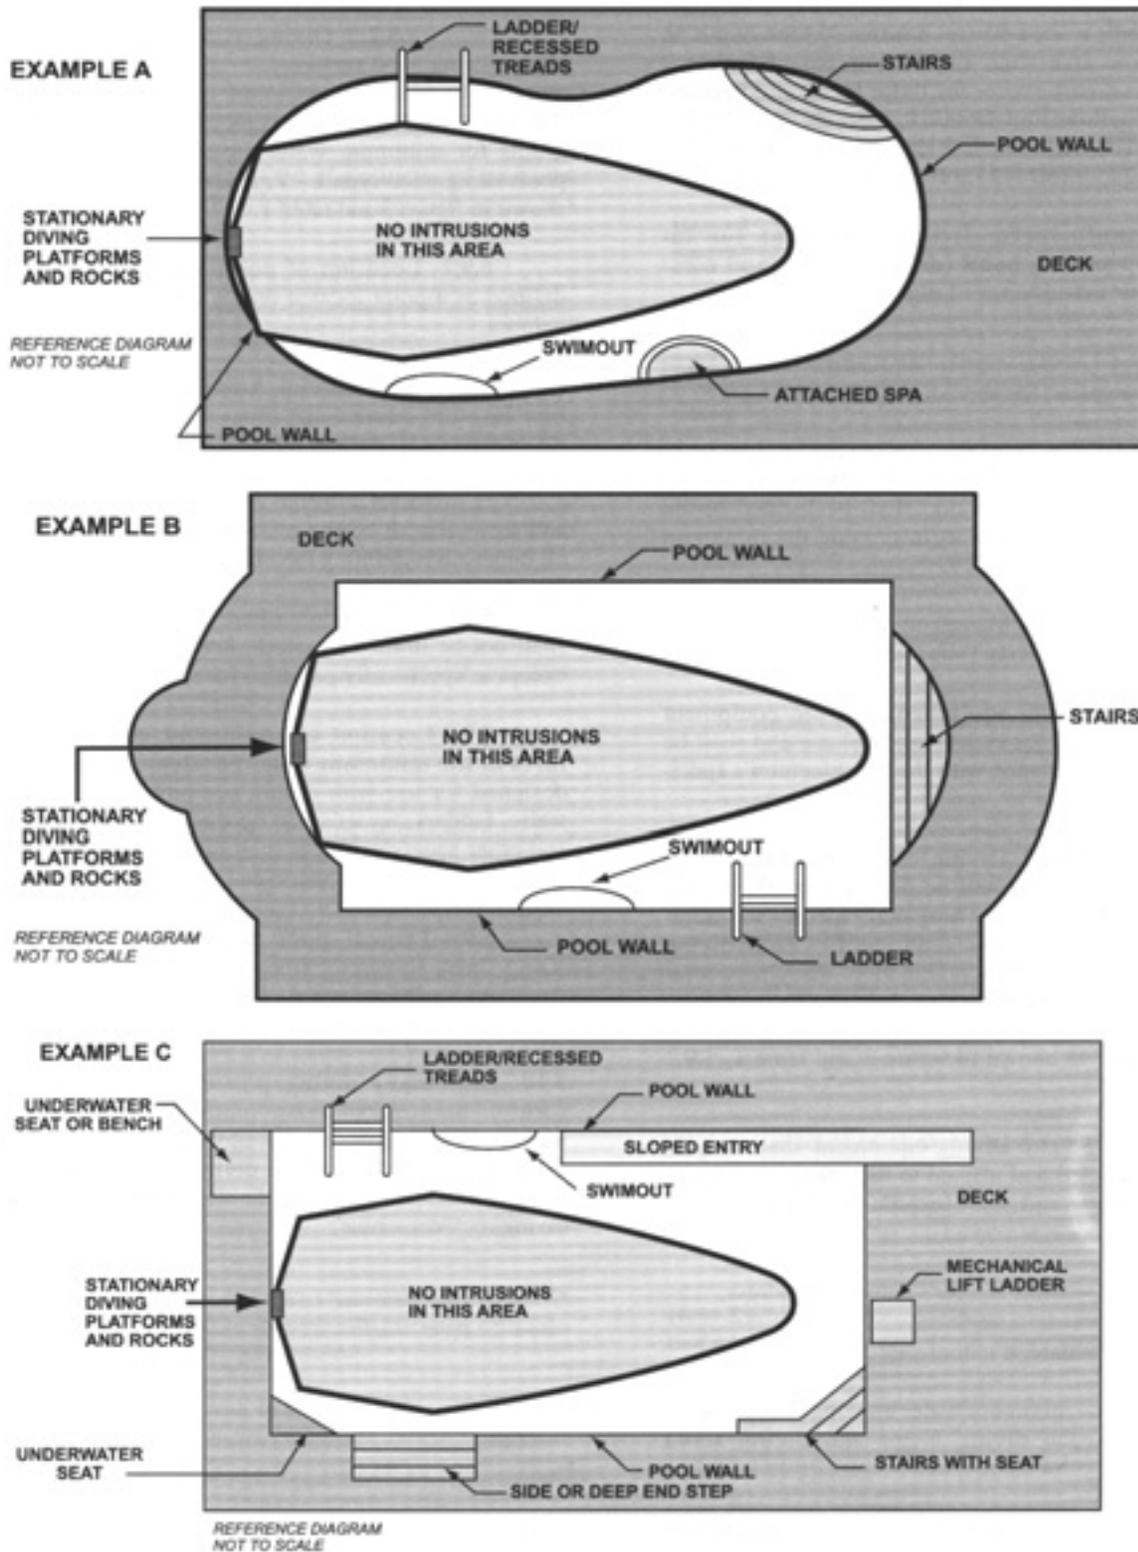

Figure 6 – Top view examples of accessory equipment and pool features prohibited in the water envelope
**5.9.3 Location of equipment and pool features in the minimum water envelope.** If the pool is designed for use with diving equipment, steps, pool stairs, ladders, underwater benches, special features and other accessory items shall be located outside the minimum water envelope. (See figure 6)